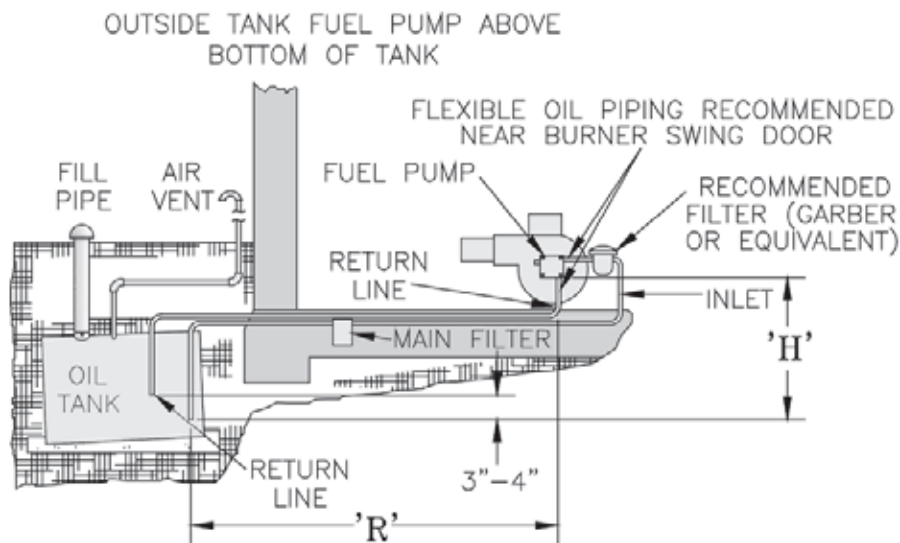

Figure 36: Two Pipe Oil Lines
1. For two piped systems, where more lift is required, the two-stage fuel unit is recommended. Table 6 (two-stage) and Table 7 (single-stage) show allowable lift and lengths of 3/8 inch and 1/2 inch OD tubing for both suction and return lines. Refer to Figure 36.